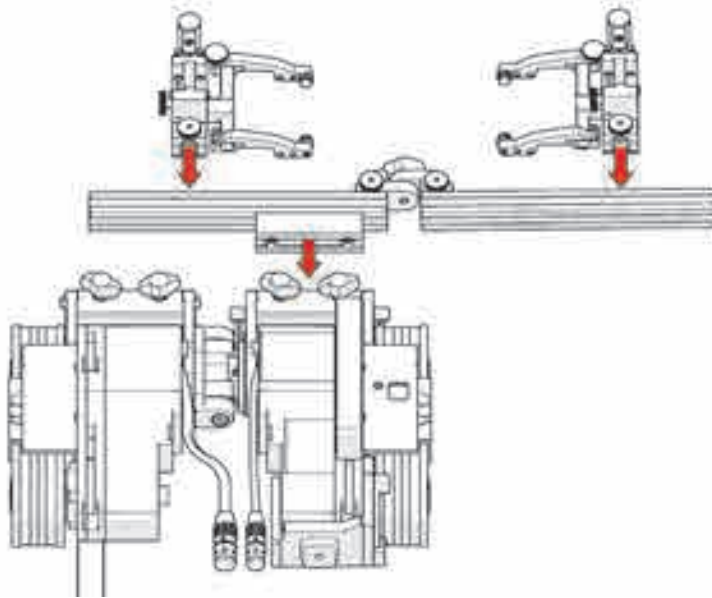

Figure 4-119 Configure assembly and mount to SteerROVER
1. Disassemble the pivoting probe holder rack to achieve the setup shown in Figure 4-119 on page 183. Ensure proper placement of the frame bar with the attached mounting point in relation to the SteerROVER scanner.